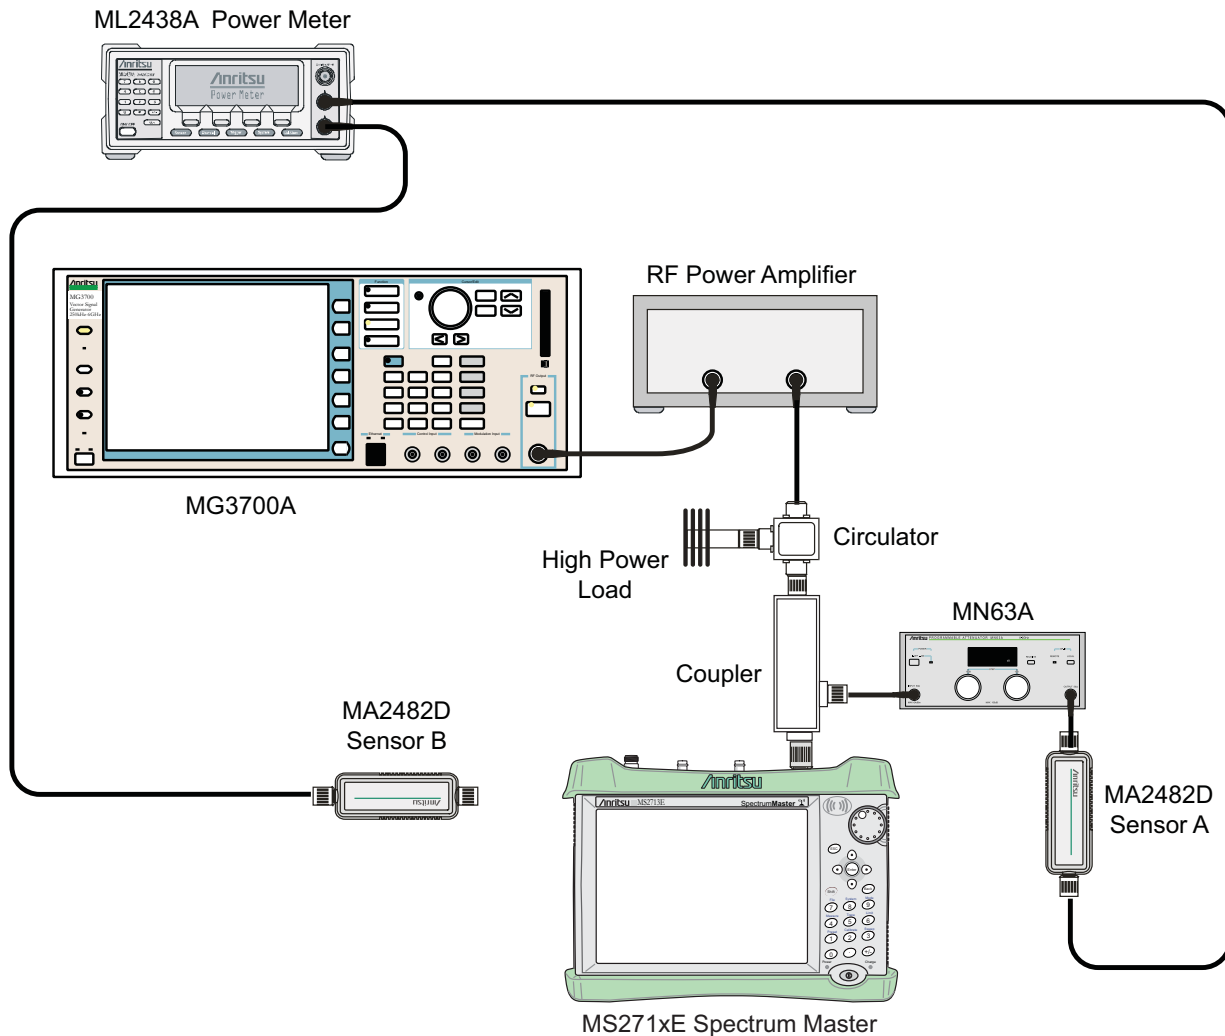

Figure 4-9. WCDMA Signal Analyzer Option Verification (Setup 2)
33. Disconnect the coupler from Sensor B, and connect the coupler to the MS271xE SPA RF In connector. Refer to Figure 4-9.